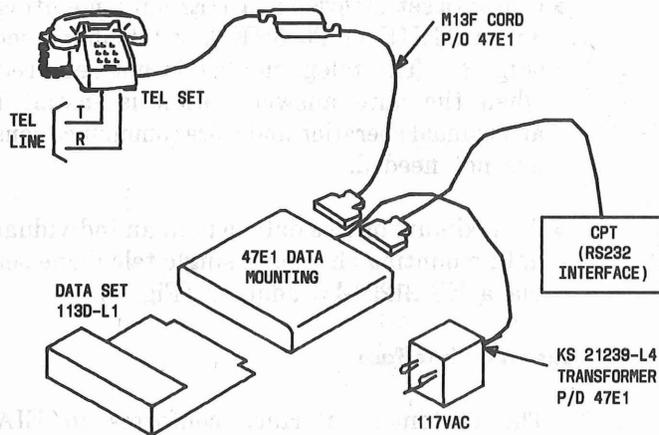

Fig. 3—Single Data Set Installation
- **DS 113D-L1/2:** Printed circuit pack assembly DS 113D-L1, housing assembly, power cord and transformer, and M13F cord (Fig. 3).
- One data set enclosed in a 47E1 data mounting and a 565HK or 2565HK key telephone set (Fig. 3). The telephone set is not required when the auto answer option is installed and manual operation and voice communications are not needed.